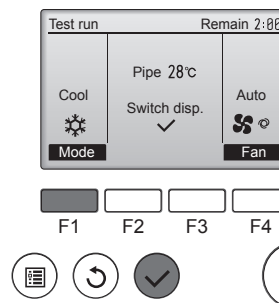

Fig. 9-4
- Press the [F1] button to change the operation mode. (Fig. 9-4)